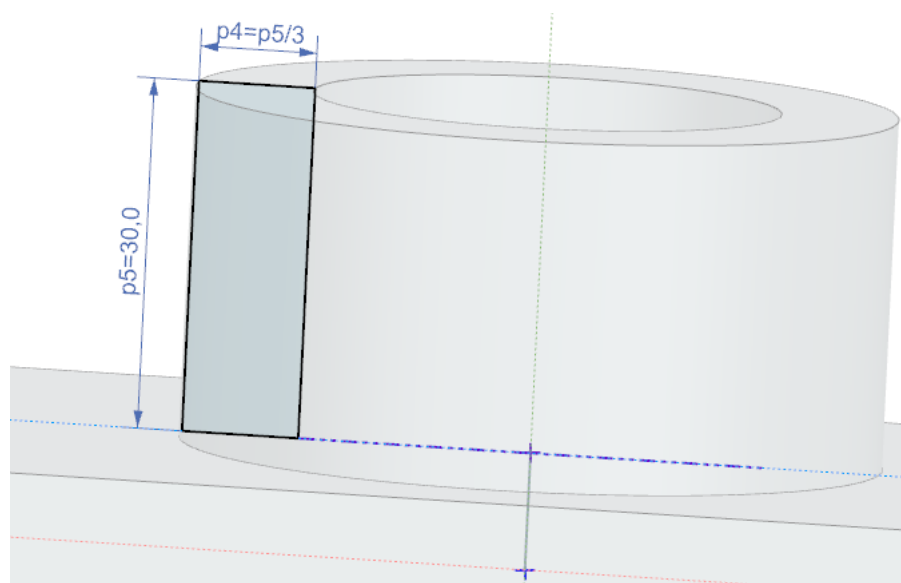

Fig. 6. Relationships in the sketch: a) constraints, b) parameterization of dimensions
- Discuss relationships and show how to insert between the drawn shapes, e.g. between lines, arcs, points, etc. The most important ones are shown in Figure 6 a).
- Explain the parameterised dimensions. Their value can be the result of some function. They can also depend on each other, as shown in Figure 6 b). Dimension p4 is 1/3 of the value of dimension p5.